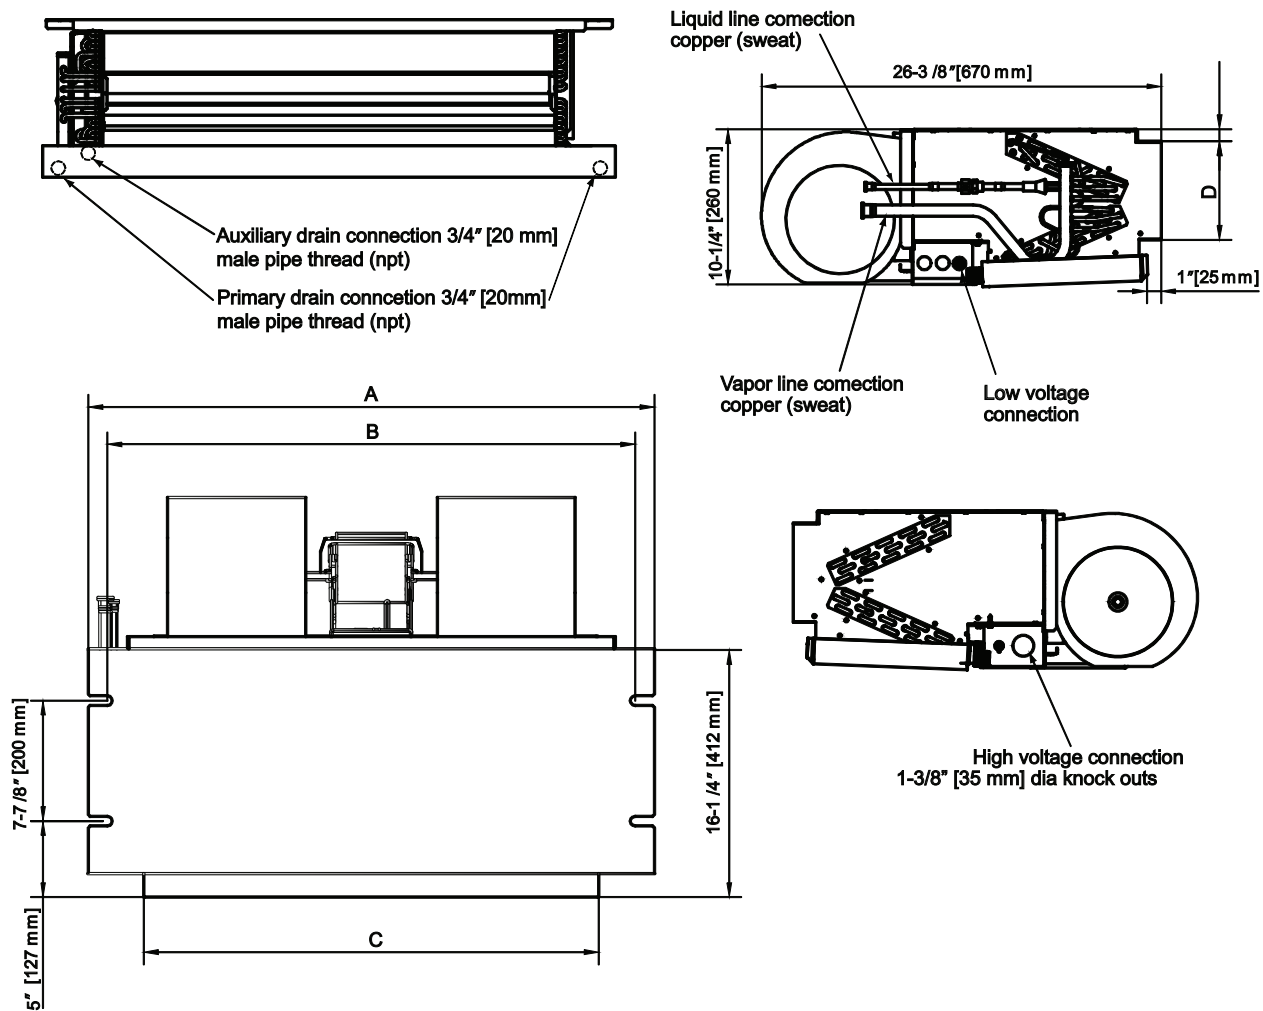
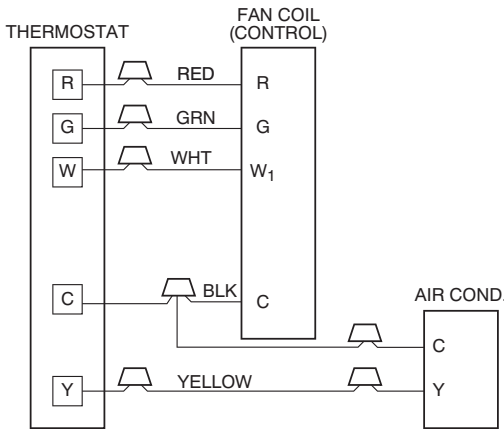

Fig. 1 - Dimensional Drawing
Fig. 2 - Wiring Layout Air Conditioning Unit (Cooling and 1-Stage Heat)
See Figs. 2, 3 and 4 for field low-voltage wiring. See Fig. 1 for location of the electrical inlets. For maximum ampacity and over-current protection, see unit rating plate or product data sheet.
4. Connect low-voltage leads to thermostat and outdoor unit. See Figs. 2, 3 and 4, as well as the outdoor unit wiring label.